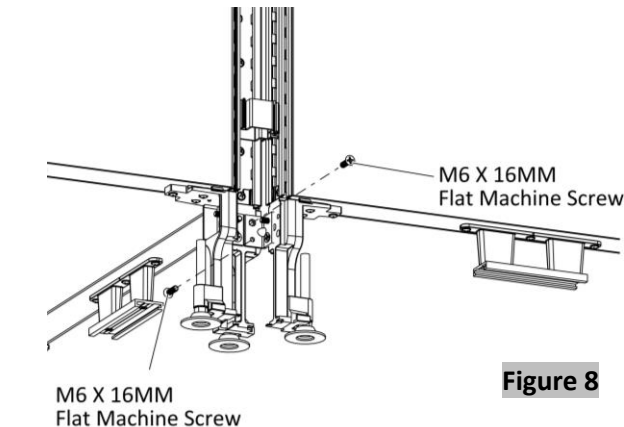

Figure 8
- Secure the base with two M6 X 16MM Flat Machine Screws, (Figure 8).